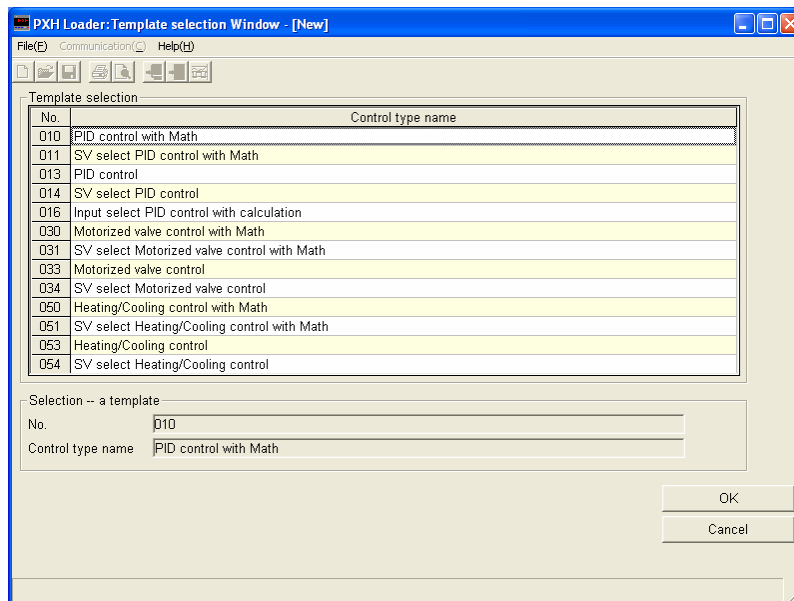

Fig. 6-2 Template selection Window
- (1) From Work selection Window, select [New], and click on [OK] button to display the Template selection Window on Fig. 6-2.